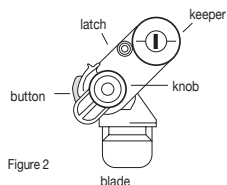

Figure 2
2. Remove the keeper from the latch with a flat screwdriver. Assemble the attachment to the welding helmet. (Figure 2/3)